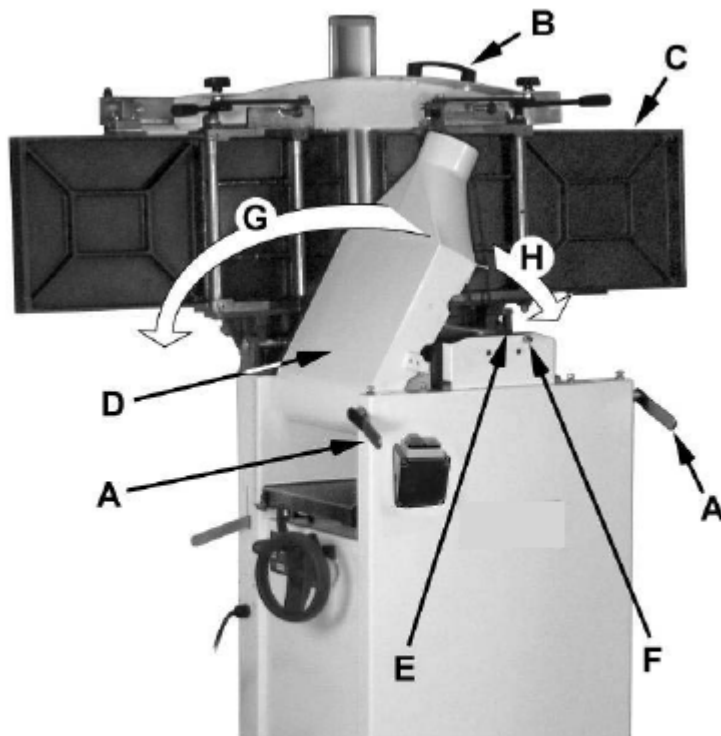

Figure 3
When raised, the table should be in the vertical position as shown in C, Fig. 3. The latch (E, Fig. 3) should be engaged, preventing the table from an accidental forward fall.
3. Position the dust chute (D, H Fig. 3) to the right. Use extreme care to avoid contact with cutterhead knives.
Referring to Figure 3: To change the machine configuration from planer to jointer: